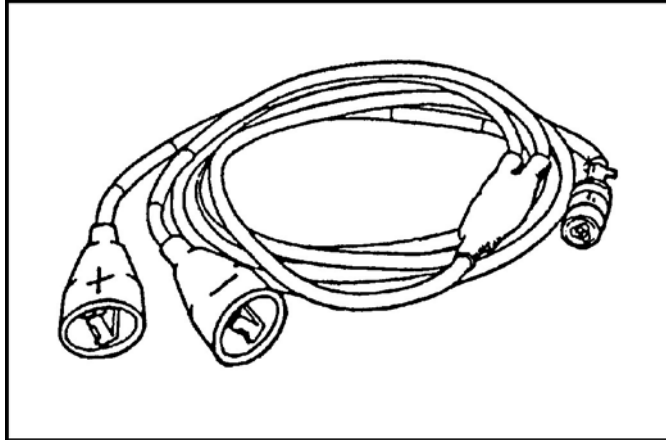

Figure 8. Vehicular battery cable.
- a. Remove the vehicular battery cable (Figure 8) from the field case.